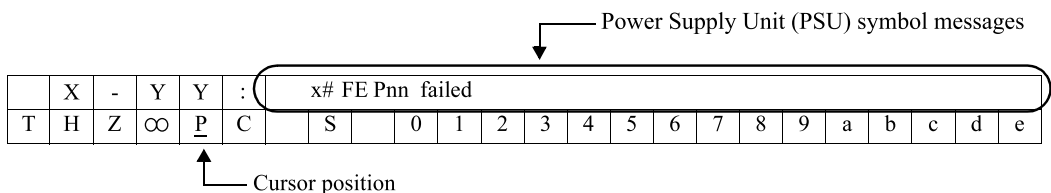

Figure 5.9 Power Supply Unit (PSU) Symbol Messages
Figure 5.9 shows the operator panel status and Table 5.10 lists the messages displayed on the operator panel while the FEP/XB-DDC symbol is selected (the cursor points to P). If any defective FEP (Power Supply Unit) or defective XB-DDC (the power supply converter at the crossbar interconnection) is detected, the selected symbol (P) blinks. If a defective FEP or defective XB-DDC is not detected, no message will be displayed.